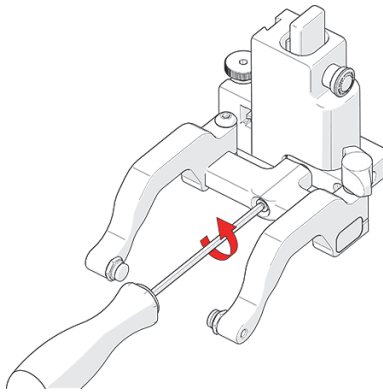

Figure 3-27 Remove yoke
1. Using the supplied 3 mm driver, unscrew the yoke (see Figure 3-27 on page 55).
1. Remove the yoke using the supplied 3 mm hex driver (see Figure 3-27 on page 55).